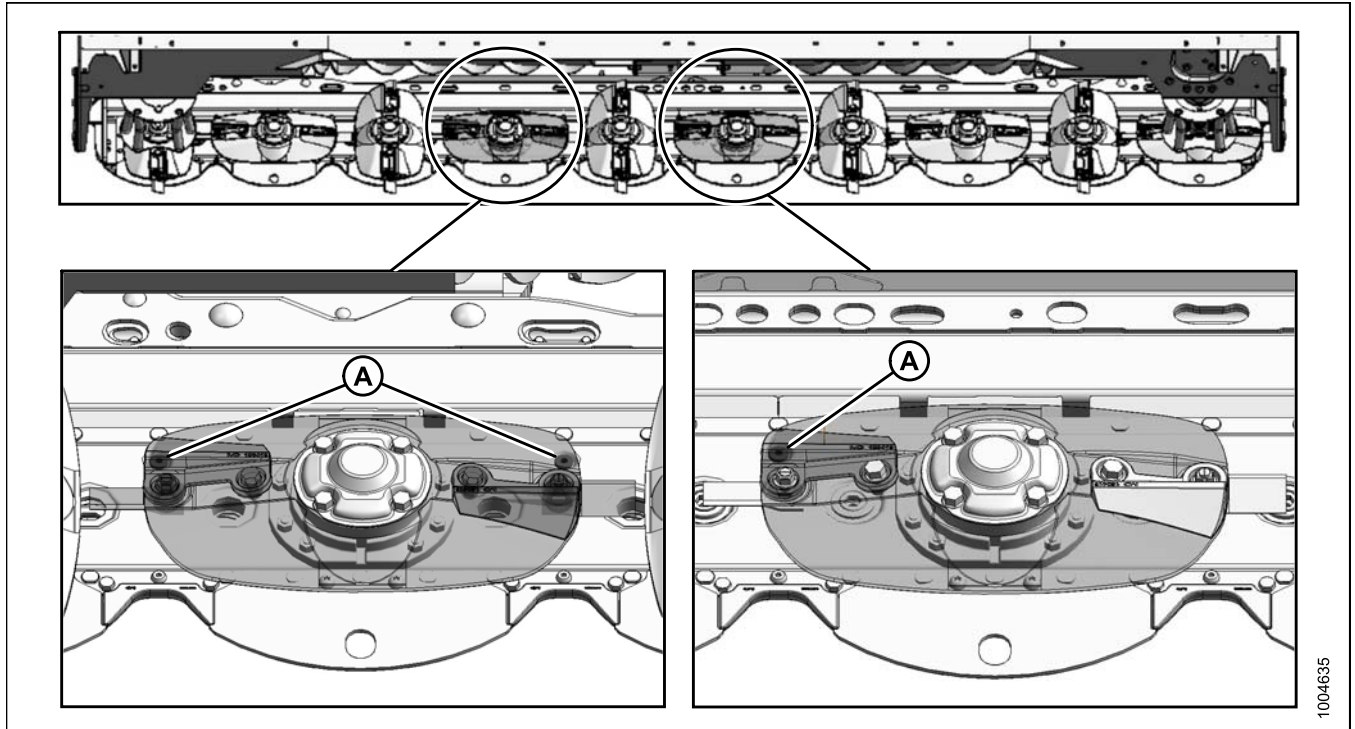

Figure 8.23: Cutterbar filler plug locations
6. Clean around either filler plug (A), refer to figure 8.23: Cutterbar filler plug locations, page 153 and remove plug with an 8 mm hex Allen L-key.
NOTE: See figure 8.23: Cutterbar filler plug locations, page 153 for locations of filler holes.